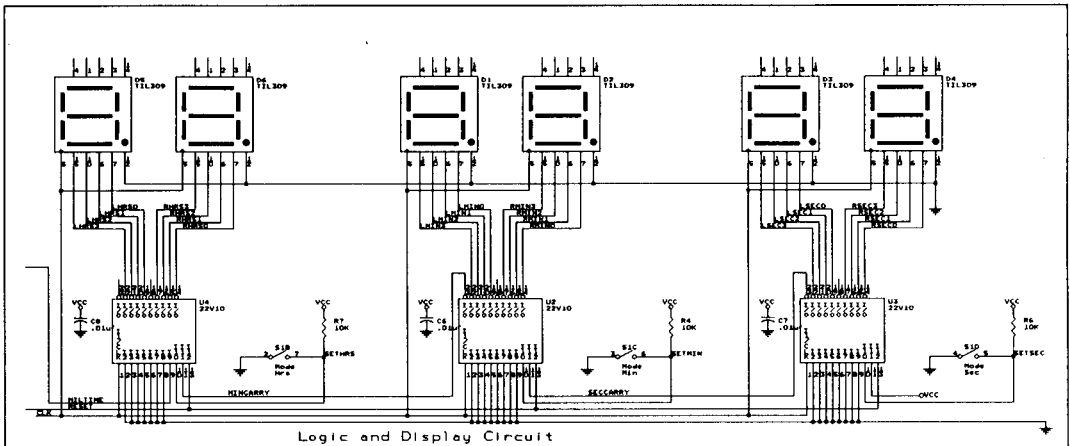

Figure 6-3. The logic and display circuitry.
It's been a while since you had a look at the schematic you're duplicating. Figure 6-3 is another copy of the logic and display circuit schematic. Your worksheet should look similar to the worksheet shown in figure 6-3.
Figure 6-3 shows how the clock logic will look once you place the wires to connect the seconds, minutes, and hours circuits. The following sections describe how to do this. As you follow the steps in each of these sections, refer to the callouts—①, ②, ③, and so on—in each figure. These callouts correspond to the numbered steps that follow the figure.
You have now connected all of the wires in the logic and display portion of the schematic. Select **ZOOM Select 5** to view the entire schematic. It should look like figure 6-3. Note that the clock oscillator circuit and the power regulator circuit on your schematic do not show in figure 6-3.